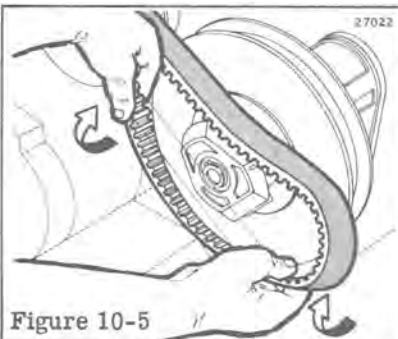

Figure 10-5
- f. Work belt out from under bottom of sheave and between steering column and end cap, Figure 10-5.